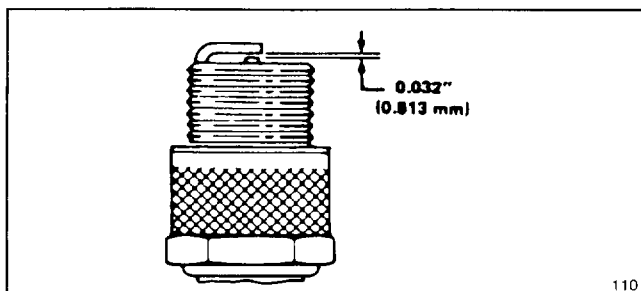

Figure 19
- 3. Set air gap at 0.032" (0.81 mm) (Fig. 19). Install correctly gapped spark plug and gasket seal. Tighten plug firmly to 10 ft-lb (13.6 N-m).